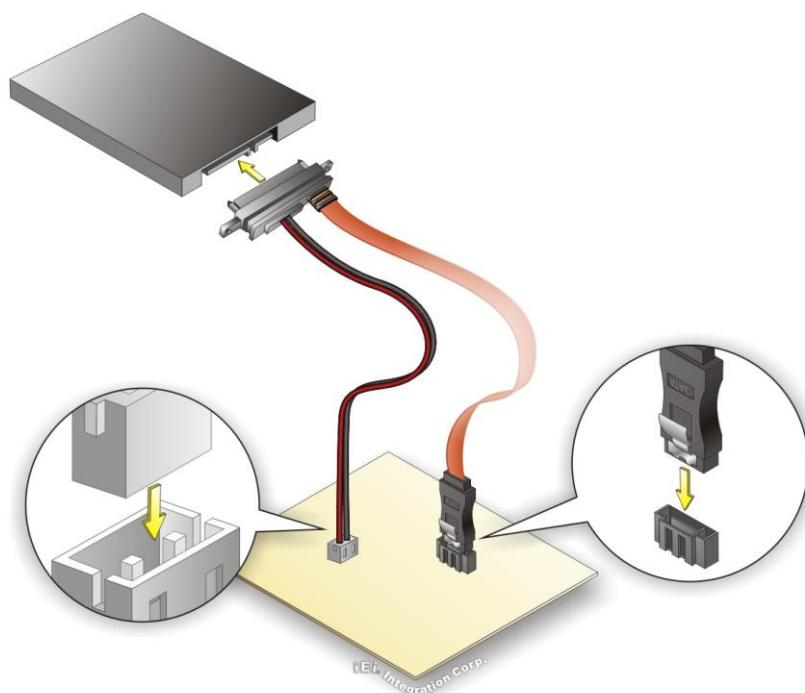

Figure 4-13: SATA Drive Cable Connection
Step 2: Insert the cable connector. Insert the cable connector into the on-board SATA drive connector and the SATA power connector. See **Figure 4-13**.
Step 3: **Connect the cable to the SATA disk.** Connect the connector on the other end of the cable to the connector at the back of the SATA drive. See **Figure 4-13**.